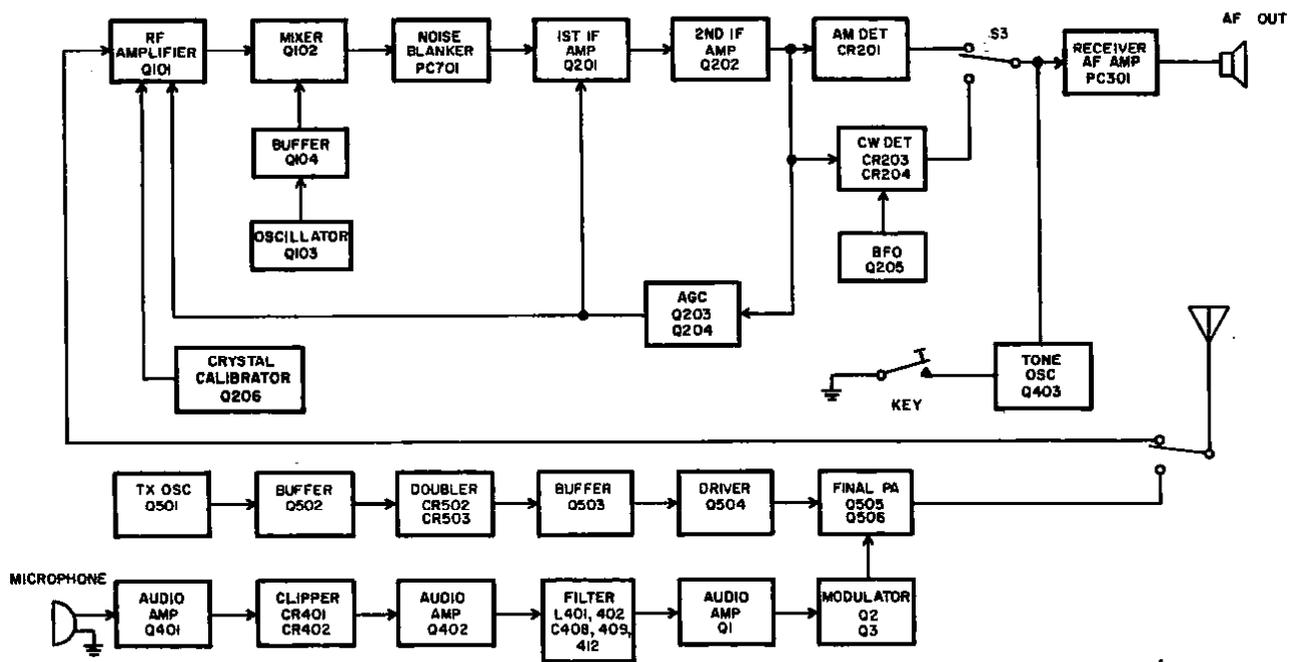

Figure 5-1. Overall Block Diagram.
**5-1. INTRODUCTION.** Study the following paragraphs carefully for a thorough understanding of the theory of operation. A block diagram (figure 5-1) and schematic diagrams (figure 5-2) are included in this section.